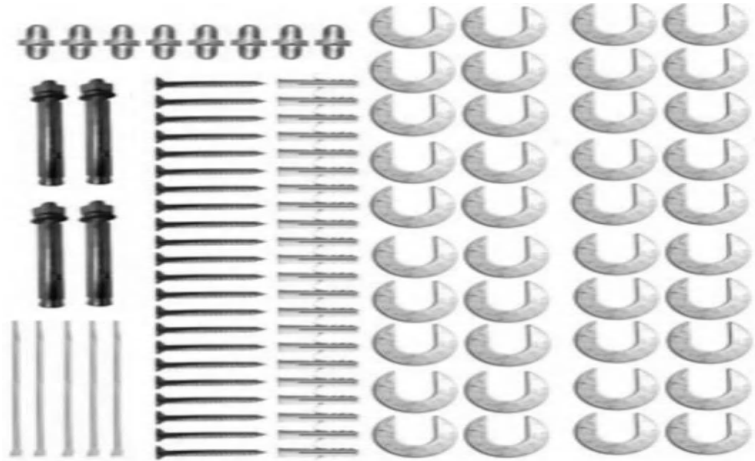

Fig. 8
1.3 Open the parts bag, check the parts according to the part list (See Fig.8).